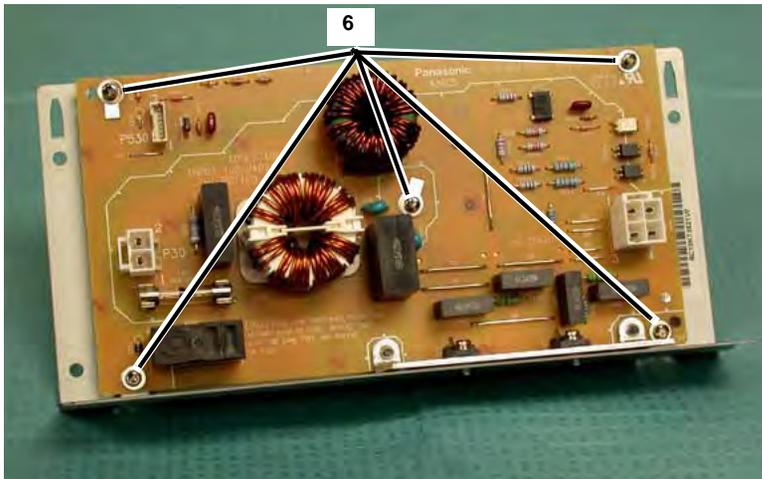

Figure 4 Removing Screws
6. Remove the AC Driver PWB screws (5) from the front of the panel (Figure 4).